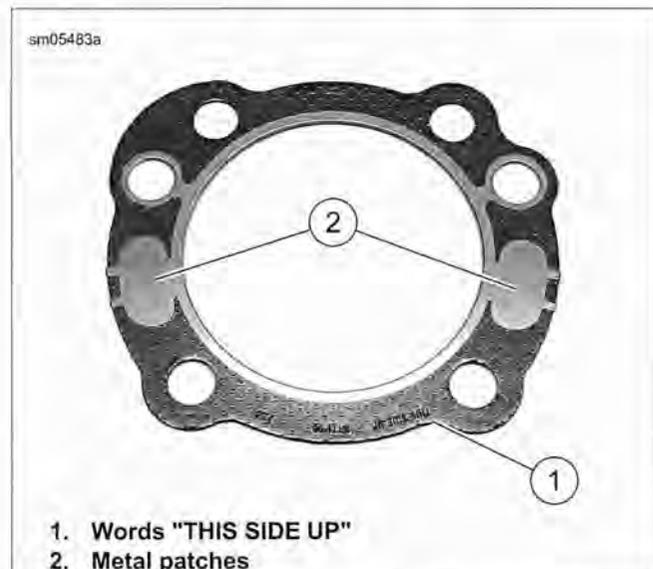

Figure 3-94. Cylinder Head Gasket: XR 1200X
**XR 1200X:** See Figure 3-94. The cylinder head gasket has metal patches (2) that must be installed against the cylinder head. When installing the gasket on the cylinder, be sure the words "THIS SIDE UP" (1) and the metal patches (2) are visible.